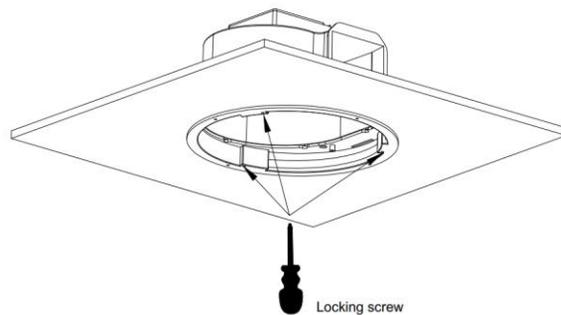

Fig 4.
12. Position fan in hole and with screwdriver, rotate mounting screws until slip blocks firmly secure fan onto ceiling plaster. *Do not over-tighten.* (Fig 4)
13. Replace front fascia by locating spring hole slots in body of fan. (Fig 4).